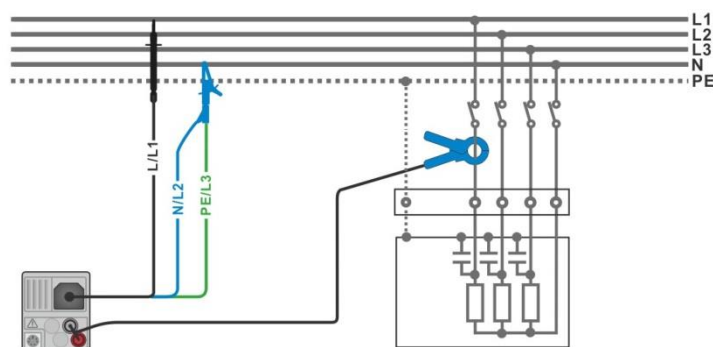

Figure 7.59: Power measurement
- › Connect the voltage test leads and current clamp to the item to be tested (see **Figure 7.59**).